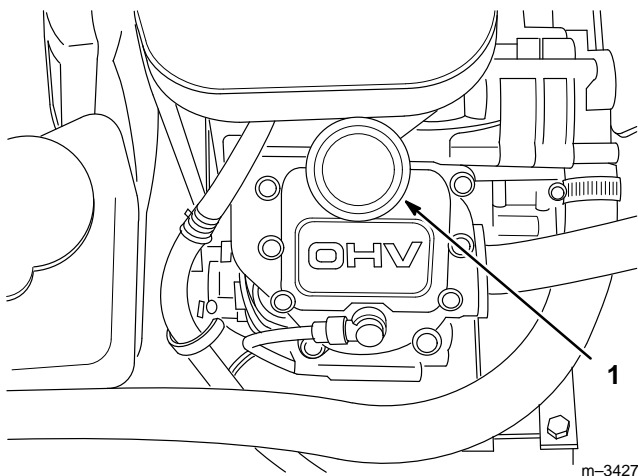

Figure 27
6. Remove the oil filler cap (Fig. 27) and refill the engine with a high-quality, API Service SG or SH engine oil (see viscosity chart).
7. Slowly pour approximately 80% of the specified amount of oil into the filler tube (Fig. 27). Now check the oil level; refer to Checking the Engine Oil Level, page 10. Slowly add additional oil to bring the oil level to the FULL mark on the dipstick.